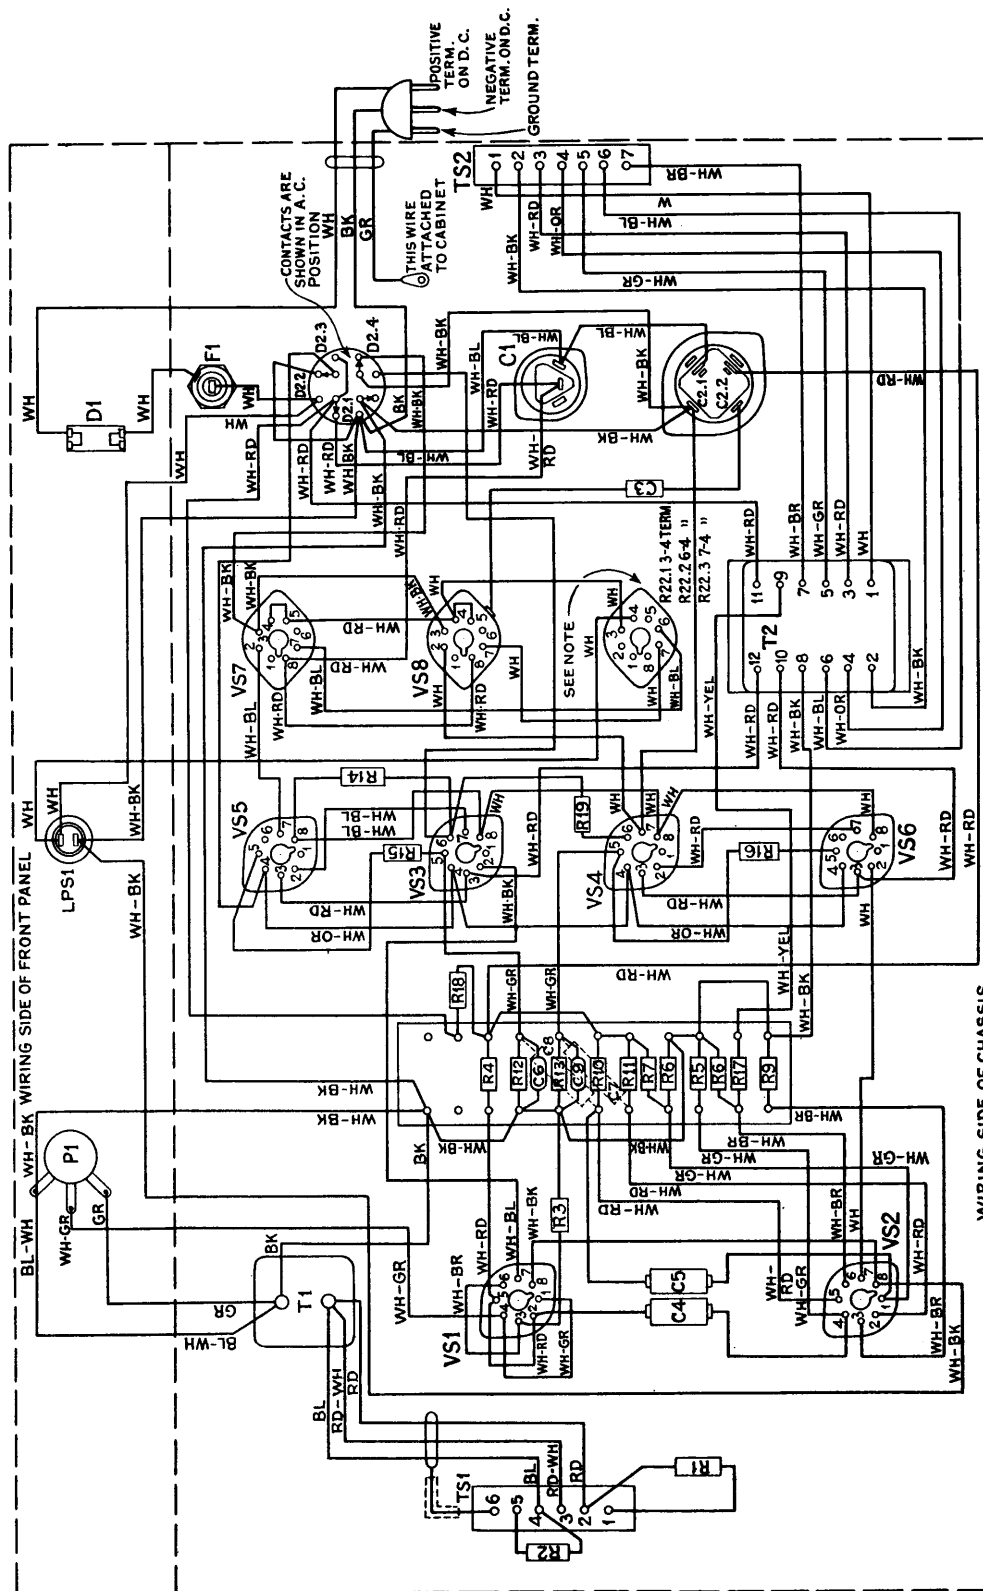

Fig. 4—Wiring Diagram
3.04 A wiring diagram of the amplifier is shown in Fig. 4. The usual methods should be followed in connecting the input, output and power circuits to the amplifier.